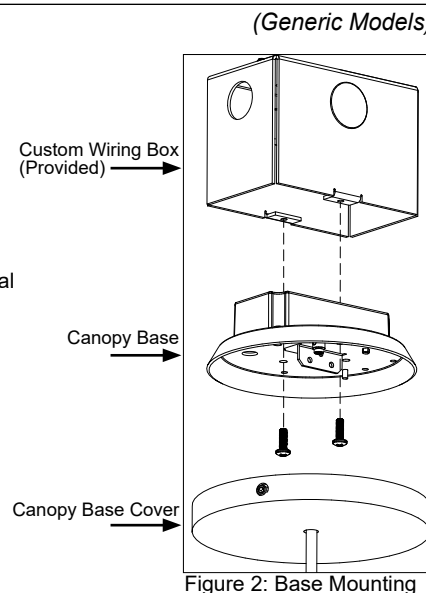

Figure 2: Base Mounting
5. Attach canopy base onto custom wiring box using [2] provided Phillips screws. [Figure 2]